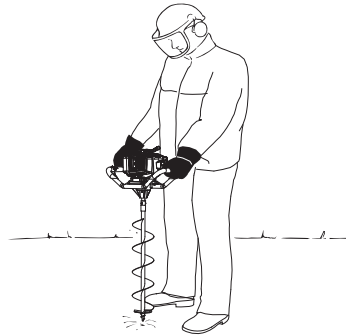

Fig. 11
2. Always hold the product firmly with both hands. Right handle bar (9) with the right hand and left handle bar (1) with the left hand. Fully grip both handles at all times during operation. Never operate the product using only one hand.
4. Only use the product with suitable clothing and a secure stance (Fig. 11).